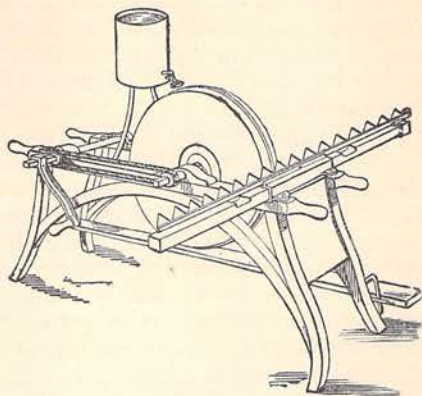

FIG. 25.
C. G. POULSON, Linwood, Delaware county, Pennsylvania, exhibited his patent *mower and reaper knife-grinder*, (Fig. 25,) with his latest improvements.